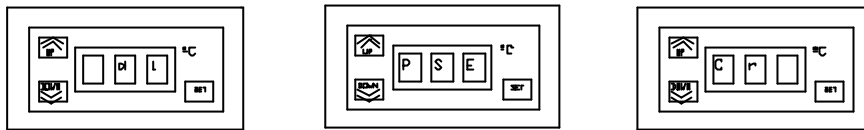

fig 53
-Simultaneously activate core probe selector (1) and SET (2), holding SET down for approximately 4 seconds until “d1” appears on the display (3).(fig 53)